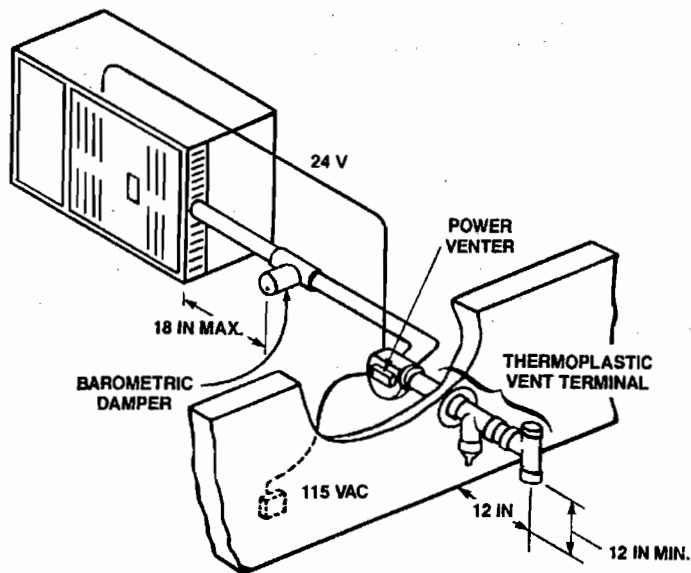
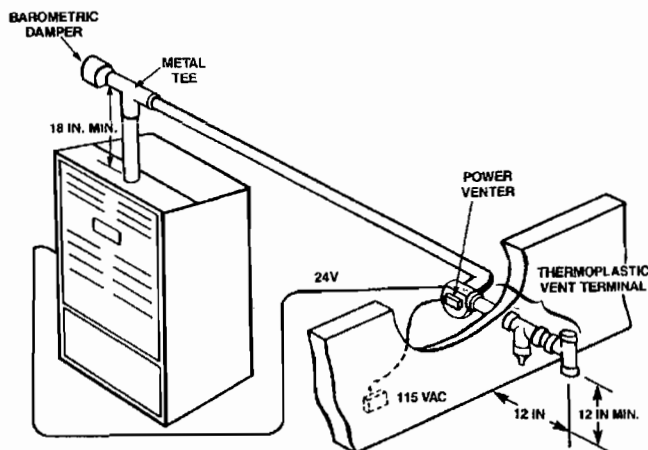

FIGURE 1
FIGURE 2
Table 2 should be used to solve this problem because single-wall metal vent connectors are being used with a Type B vent. Refer to Figure 2 of Typical Applications.
Some installations may require this appliance to be horizontally-vented directly through a side wall. When this occurs, the instructions listed below must be followed in order to insure safe and reliable operation. A completed horizontal vent system for GSI furnace is shown in Figure 1, while the GUI/GHI horizontal vent system is shown in Figure 2. When properly installed, the vent system is shown in Figure 2. When properly installed, the vent extending from the furnace to the power venter is under negative pressure, and the furnace operates as a Category I appliance. THIS SYSTEM IS ONLY TO BE USED WITH ONE GSI FURNACE. COMMON VENTING WITH OTHER APPLIANCES IS NOT ALLOWED.
3. Install the metal flue pipe and the single-acting barometric damper as shown in Figure 1 for GSI furnaces or Figure 2 for GUI/GHI furnaces. The damper must connect to a horizontal tee off the flue pipe no more than 18 inches from the furnace outlet (GSI furnaces), or at least 18 inches above the furnace outlet (GUI/GHI furnaces). Consult local building codes and manufacturers' instructions for proper installation procedures.